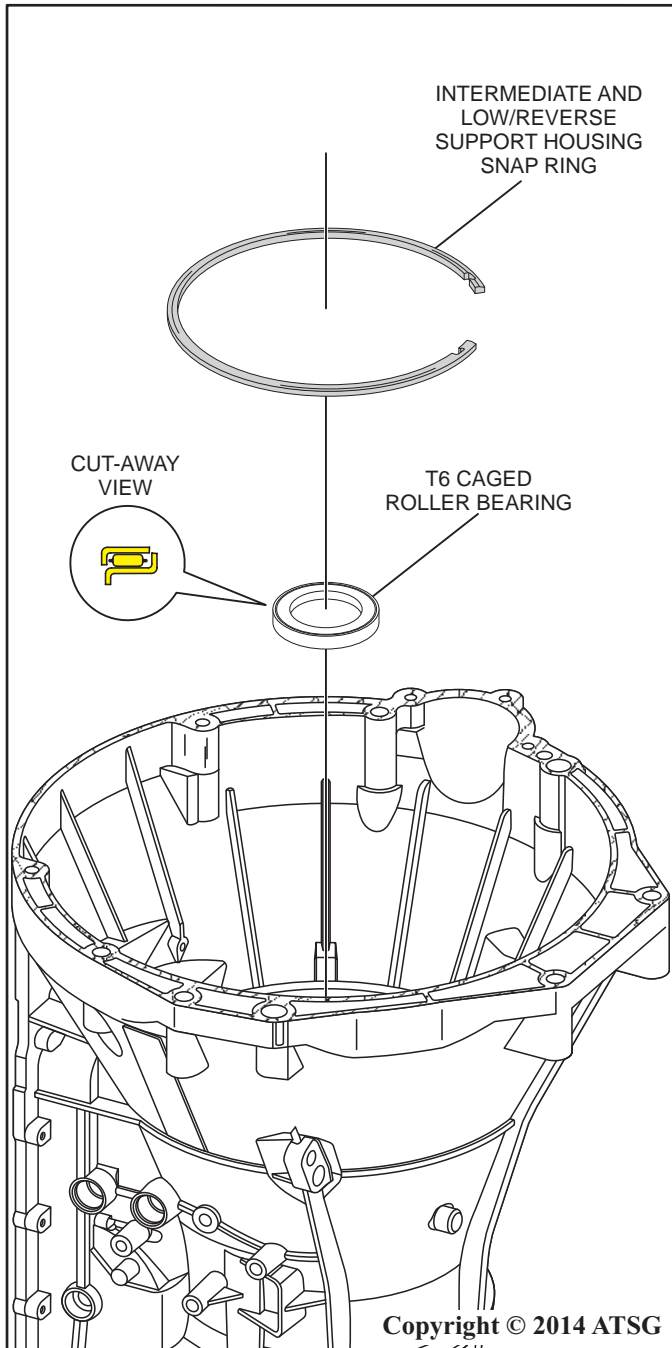

Figure 140
24. Install the T6 caged roller bearing into the transmission as shown in Figure 140.
25. Install the intermediate and low/reverse support housing snap ring as shown in Figure 140.